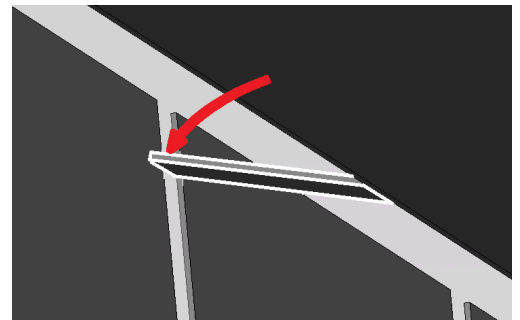

Figure 3.5.1.c
- Fold the retaining tabs located at the top of the fireplace (figure 3.5.1.c).